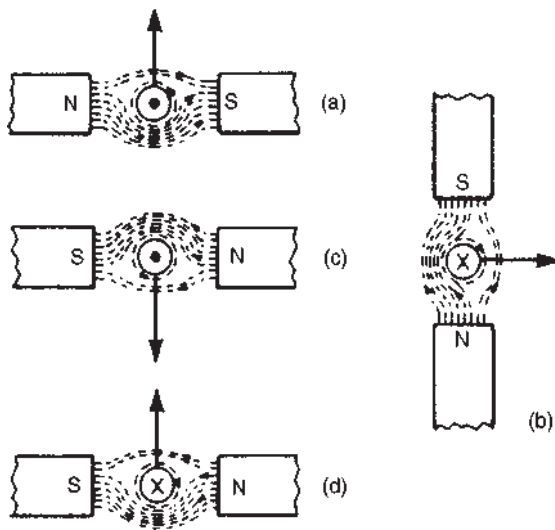

Figure 8.16
- The direction of the main magnetic field is from north to south, i.e. left to right. The current is flowing towards the viewer, and using the screw rule, the direction of the field is anticlockwise. Hence either by Fleming's left-hand rule, or by sketching the interacting magnetic field as shown in Fig. 8.16(a), the direction of the force on the conductor is seen to be upward.
- Using a similar method to part (a) it is seen that the force on the conductor is to the right – see Fig. 8.16(b).
- Using Fleming's left-hand rule, or by sketching as in Fig. 8.16(c), it is seen that the current is toward the viewer, i.e. out of the paper.
- Similar to part (c), the polarity of the magnetic system is as shown in Fig. 8.16(d).